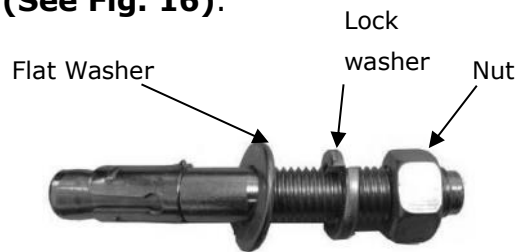

Fig.16
1. Prepare the anchor bolts (**See Fig. 16**).